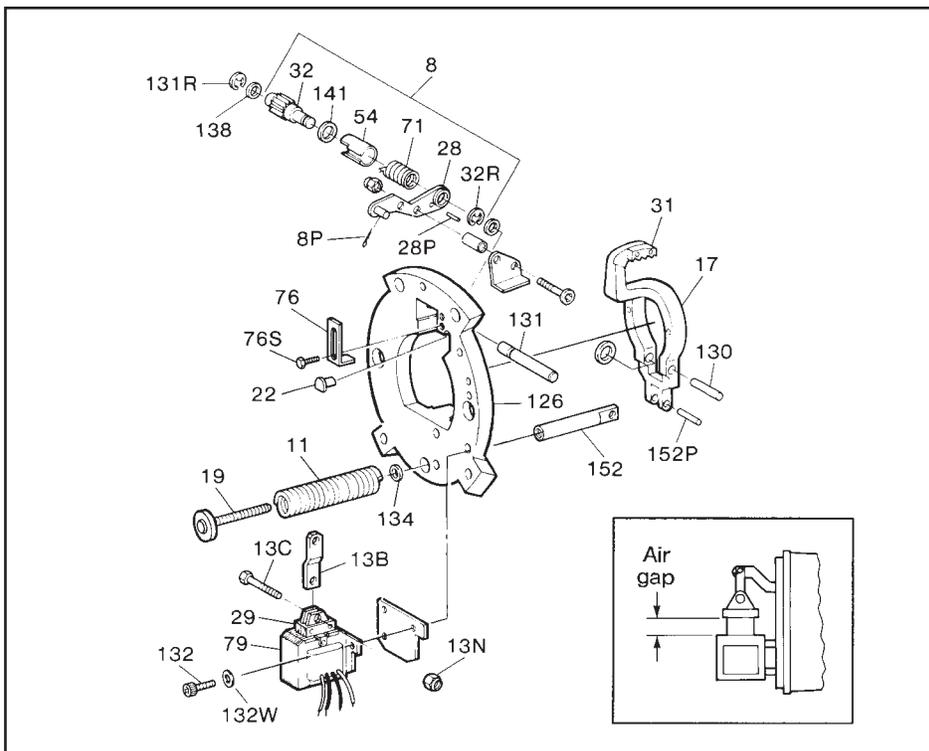

Figure 6
- H. Mount support plate assembly, torque screws to 50 in-lbs in endplate. Conical spring washer installed under the screw head. Flat washer used under the conical spring washer only with aluminum support plate. Be sure that assembly is mounted with the solenoid in a vertical position (plunger above frame) as shown when brake is horizontal. If plunger is not tied down and has allowed the mechanism to overadjust, it will have to be reset before mounting support plate. In this case the lever arm (17) throat will be near, or touching, the pinion (32) teeth. Refer to Figure 6 and *Self-Adjust Maintenance*. Loosen pressure spring cap screw (19) until pressure spring (11) is free, mount support plate assembly to endplate, and retighten spring cap screw until snug. Do not overtighten! Torque to a maximum of 100 in-lbs.
D. Self-adjust maintenance (See Figure 6)